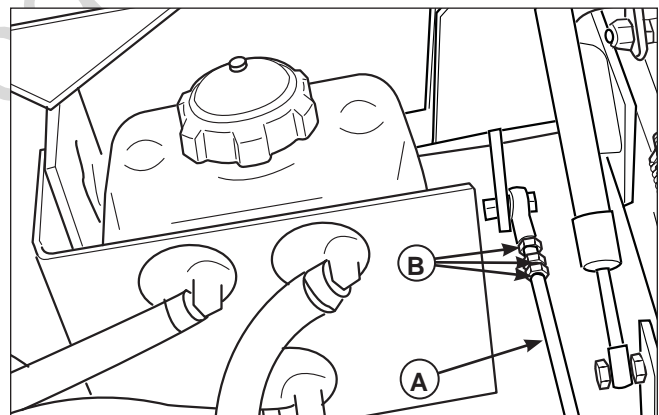

Figure 32. Neutral Adjustment
2. There are three (3) nuts on the linkage rod. The first two are to be used together to turn the rod and the third (towards the front of the machine) is used to lock the rod in place. Loosen the jam nut that locks against the clevis (B, Figure 32) and turn the linkage rod (A) to adjust. If the machine creeps forward, turn the rod CLOCKWISE (while standing at the rear of the machine, facing forward), if the machine creeps backward, turn the rod COUNTER-CLOCKWISE.
3. Lock the jam nut (B) against the clevis when neutral is achieved.